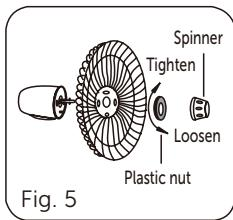

Fig. 5
3. Screw on the plastic nut (clockwise), securing the fan's rear guard onto the head unit (see Fig. 5).